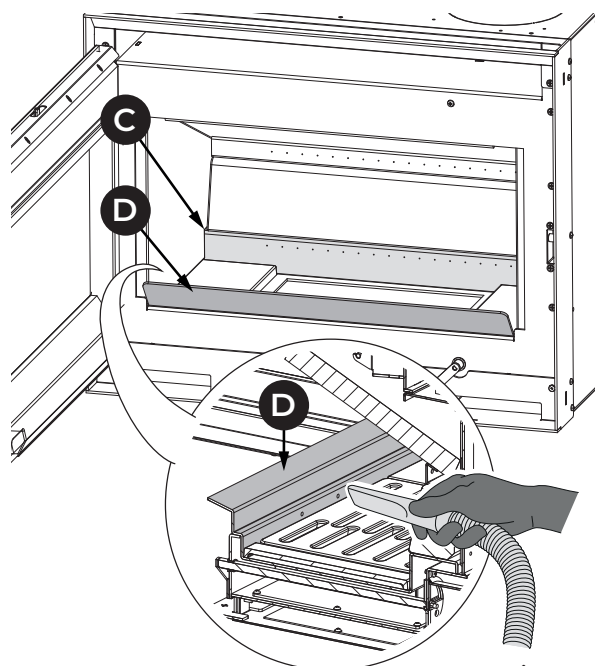

Fig. 10.2
2	Extract the ash drawer (B) from the base and vacuum out any ash deposited in the compartments below (Fig. 10.2).
3	Vacuum the rear (C) and front holes (D - if any) of the combustion air distributor in order to prevent ash from accumulating (Fig. 10.2).